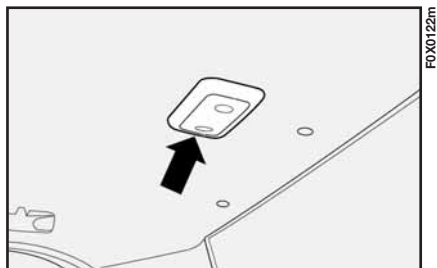

fig. 142
- acting in the point indicated by the arrow fig. 142, remove the complete roof light unit;